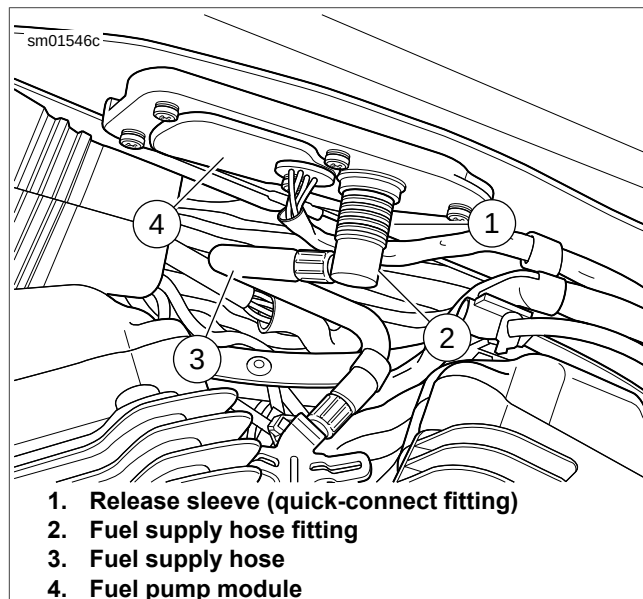
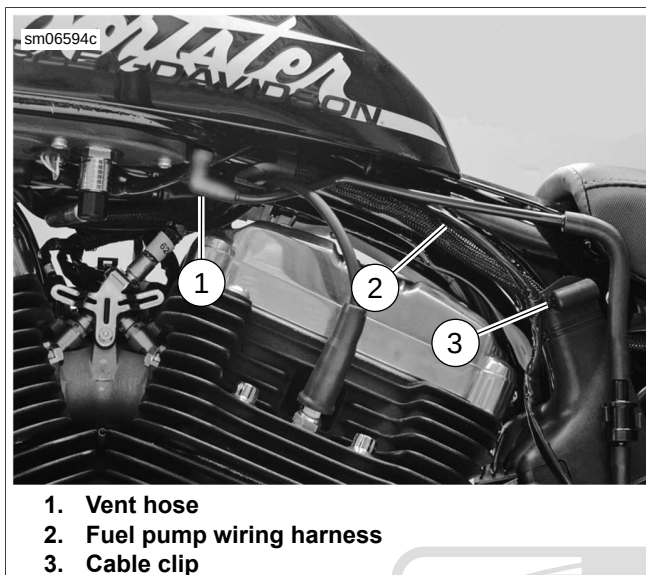
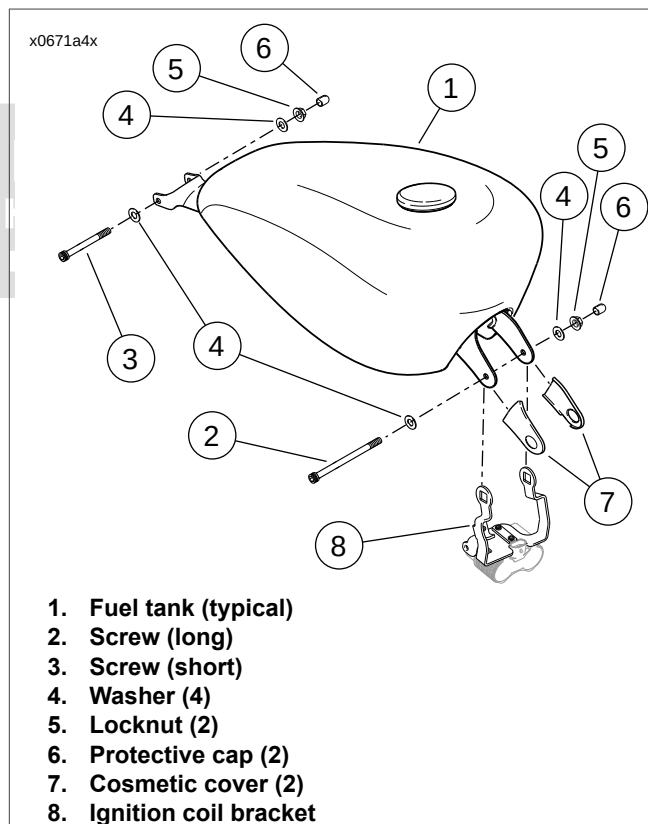

Figure 4-7. Fuel Tank Quick-Connect Fitting
Figure 4-8. Fuel Tank Vent Hose
Figure 4-9. Fuel Tank Mounting (typical)
2. See Figure 4-7. Push up on release sleeve (1) on fuel pump quick-connect fitting and pull down on fuel supply hose fitting (2) to disconnect fuel supply hose (3) from fuel pump module (4). Immediately clean up any fuel spills.
4. See Figure 4-8. Remove vent hose (1) from fuel tank vent nipple. Remove cable clip (3) securing fuel pump wiring harness (2) to mounting boss on H-bracket.
2. See Figure 4-9. Position fuel tank on motorcycle. Verify that front fuel tank brackets are located outboard of ignition coil bracket (8).
- a. Place washer (4) on long screw (2).
- d. Hand-start locknut (5).
7. Route fuel pump wiring harness down along left side of H-bracket. Secure with cable clip (3). Push clip into hole in mounting boss (2) on H-bracket.
- b. See Figure 4-9. Place washer (4) on short screw (3).
- e. Hand-start locknut (5).
- g. Install protective caps (6) on screw ends.
9. See Figure 4-8. Install vent hose onto fuel tank vent nipple.
1. See Figure 4-7. Connect fuel hose.
- a. Push up on release sleeve (1).
- b. Push fuel hose fitting (2) into fuel pump module fuel pump quick-connect fitting.
2. See Figure 4-8. Install vent hose onto vent nipple on fuel tank.